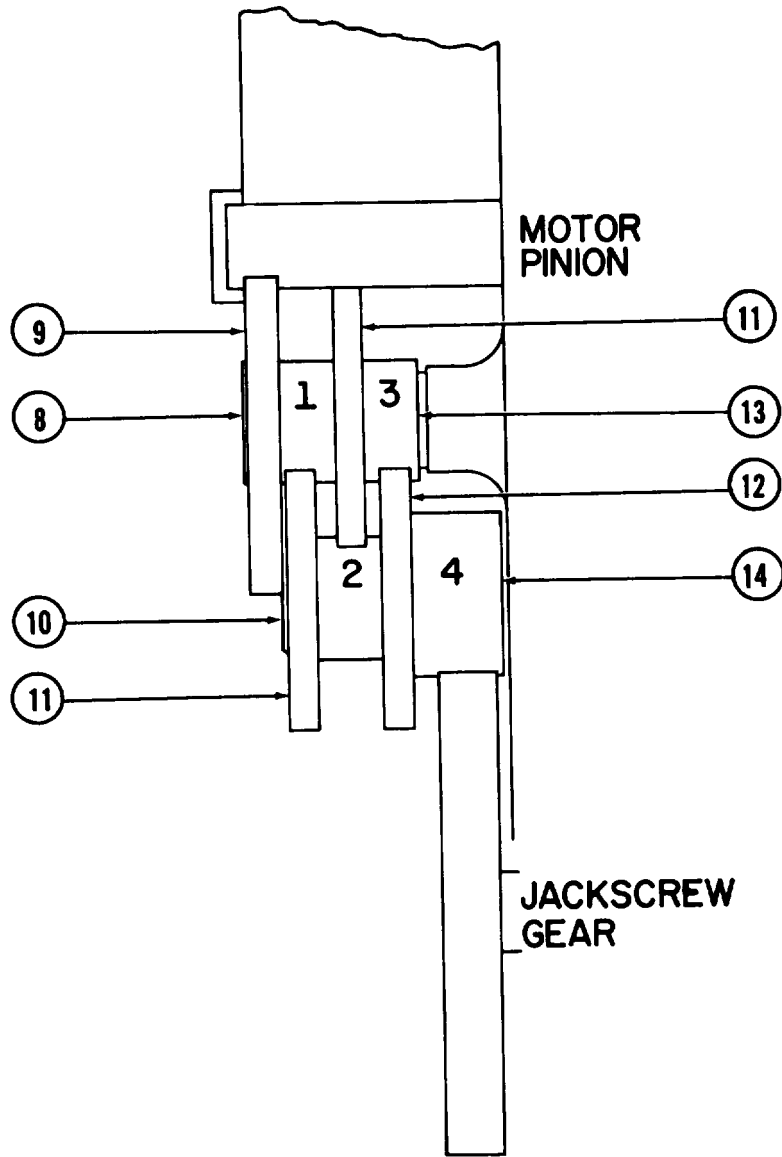

Figure 4. Gear Train Installation.
(6) Assemble instruction plate (24) over slotted end of adjustment screw so that it can be read with open side of housing down. Assemble lockwasher (23) over end of adjustment screw and down to instruction plate. Apply a small amount of sealant (item 8, table 3) to threads of adjustment screw. Thread nut (22) over end of adjustment screw and down to lockwasher. Hold adjustment screw in place by putting a screwdriver in the slot and tighten nut with a 5/16-inch open-end wrench.
*n*. Assemble gear train per figure 4. Apply grease to gear train per paragraph 15*b*.
*o*. Assemble bearing (5) to end of jackscrew (19). Shim between bearing and jackscrew gear with flat washers (6 and 7) as required to position bearing on jackscrew so that bearing extends 0.002 to 0.006 inch beyond face of end cap. Assemble insulator (16) over filter terminals where motor leads are soldered. The filter terminals must extend parallel to filter case; use a pair of needle-nose pliers to achieve this. Extreme care must be exercised when routing leads prior to assembling end cap (4). Motor leads must be routed in a way to prevent interference with mating surfaces of end cap and